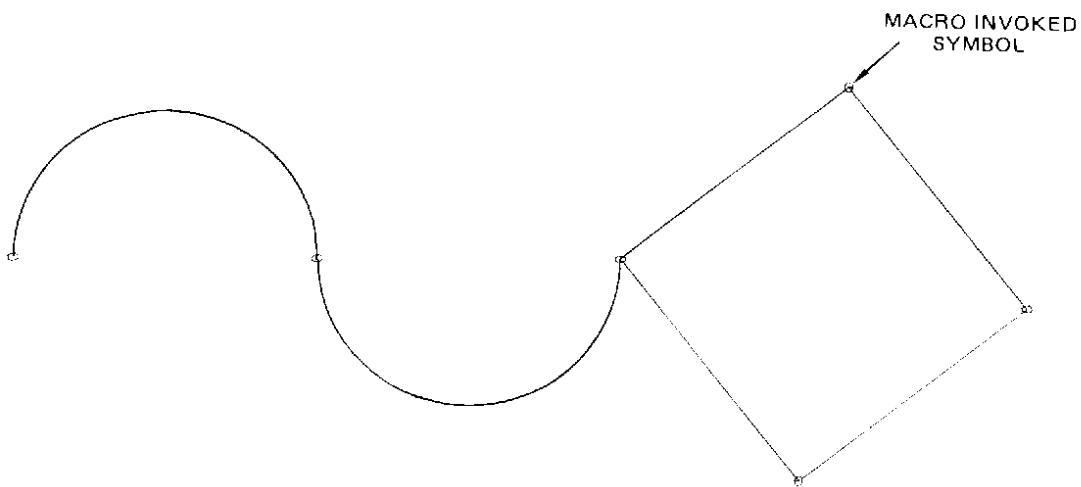

Figure 7-1. Automatic Macro Plot
With the macro loaded, the AUTOMATIC MACRO instruction causes the macro to be automatically invoked upon completion of each arc and vector in the same plot as follows. See Figure 7-1.
**Result** Draws the pattern illustrated in Figure 7-1. Upon completion of each individual vector, or arc, the macro is automatically invoked to plot the six centered symbols.